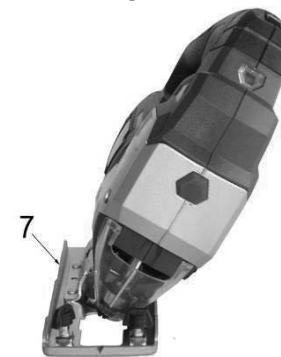

Fig. 5
2. Move the baseplate backward and tilt it until the desired angle is obtained the angle can be between 0° and 45° (left and right).(See Fig. 5)